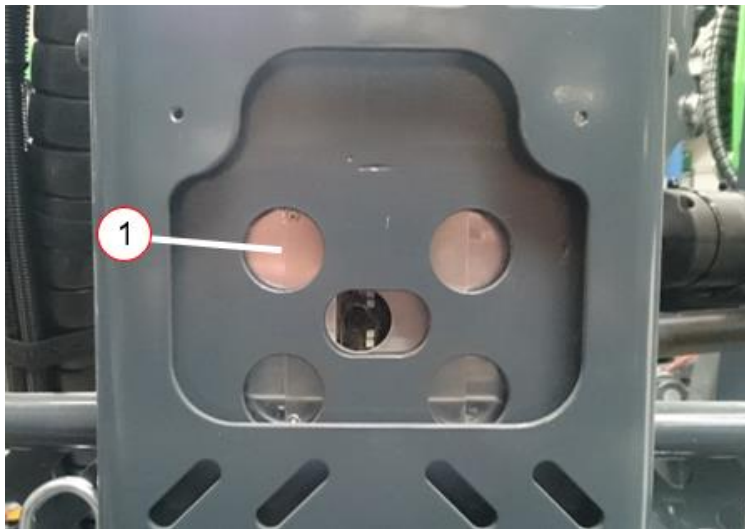

Figure 25: Load cell unit MOBA MRW in the platform
Overload control mechanism is located between the working platform and the platform support (Figure 25). Basket load is measured with a load sensor (1) which follows EN 280 - standard.